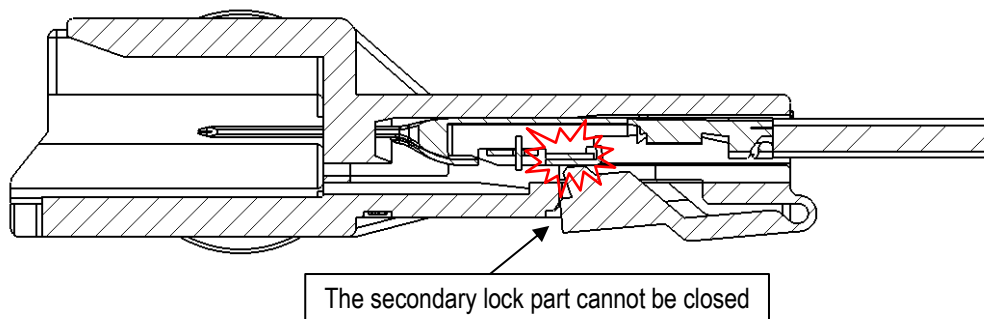

Fig.27. Insufficient the secondary lock part engagement
③ When terminal(s) is/are insufficiently inserted as shown in Fig.27, the Secondary lock part cannot be closed.